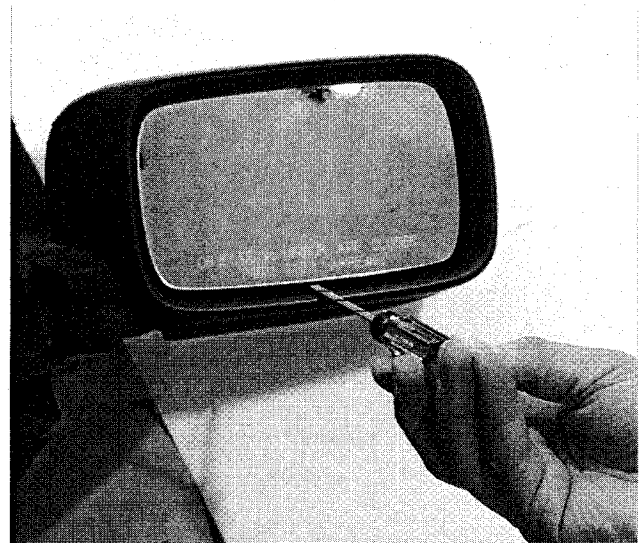

Fig. 1. Prying mirror glass out of mirror housing. Note screwdriver shaft wrapped with tape.
1. Insert thin pry tool (wooden or tape-wrapped screwdriver) between bottom mirror edge and mirror housing and carefully pry out mirror glass from housing. See Fig. 1.